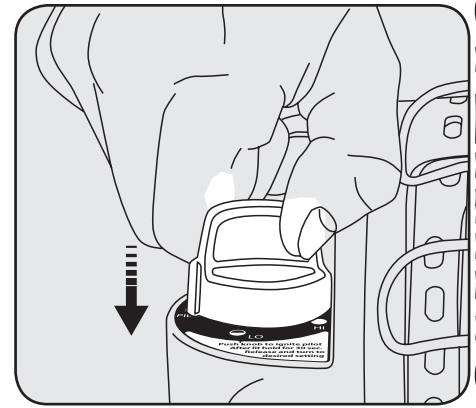

Figure 4
4. Depress and turn Control Knob counterclockwise to "PILOT" position. See Figure 4. Hold Control Knob down in the pilot position for 30-40 seconds.
6. Depress and turn Control Knob counterclockwise to "PILOT" position and hold down for 1 - 5 seconds. See Figure 4. This may take longer to purge air from the supply hose depending on the length of the hose being used.